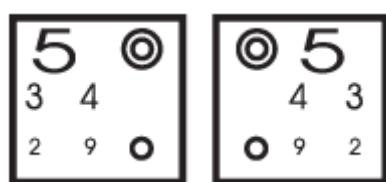

Fig.40
(1) Use red and green chart to determine precise spherical lens value (see Fig.40). Ask the patient which one is seen clearest, red or green chart. If the green one is seen better, it indicates myopia is increased (hyperopia decreased). The reduce spherical lens value by 0.25D. $-1.75 \rightarrow -1.50$.